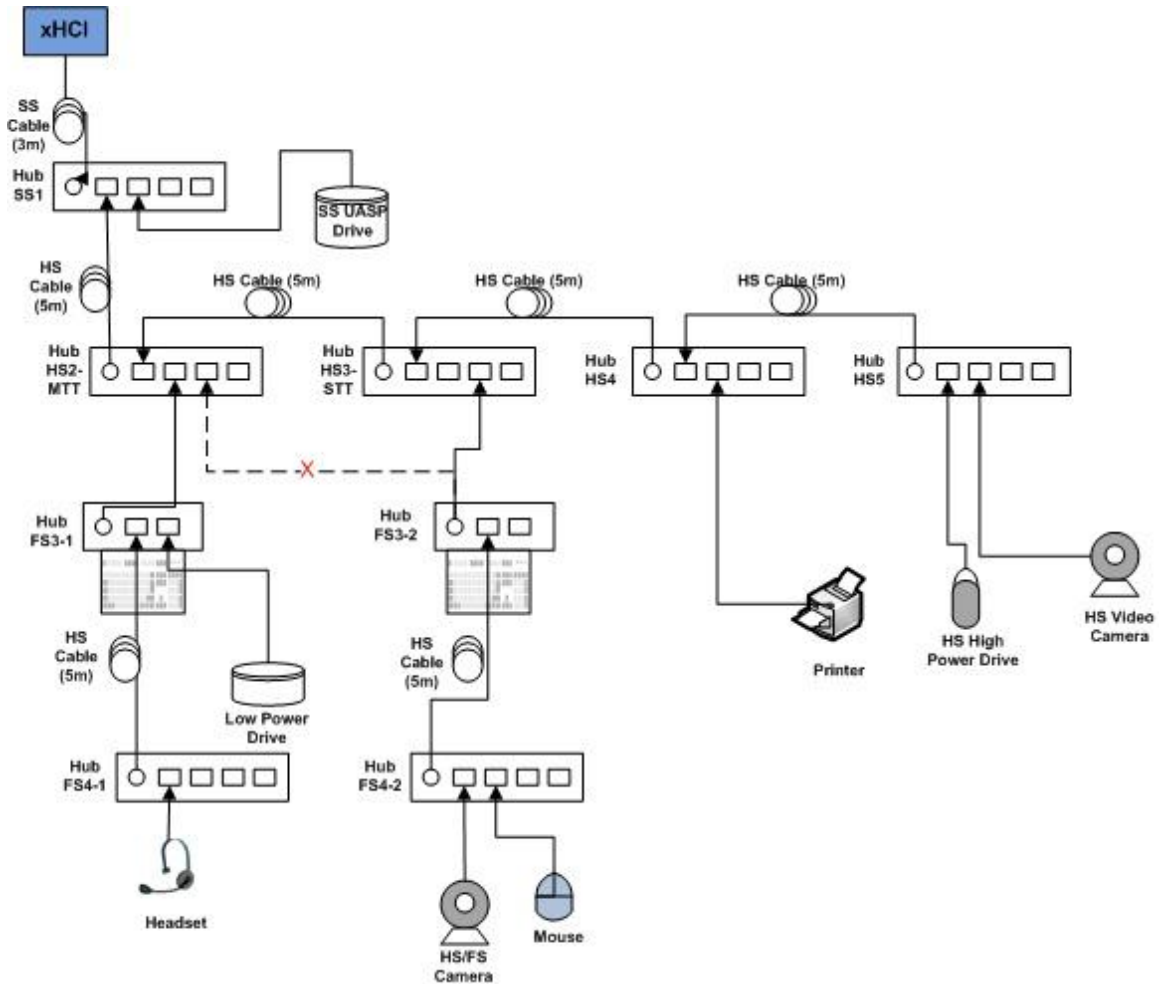

Figure 1.6.1: Topology Change 1
- While operating the devices, reattach Keyboard Hub FS3-2 to port 3 on Hub HS3-STT as shown in Figure 1.6.1.
- Detach Keyboard Hub FS3-1 from port 2 on Hub HS3-STT and reattach the Keyboard Hub FS3-1 back to port 2 on Hub HS2-MTT. This should set the configuration back to what is displayed in Figure 1.6.1.